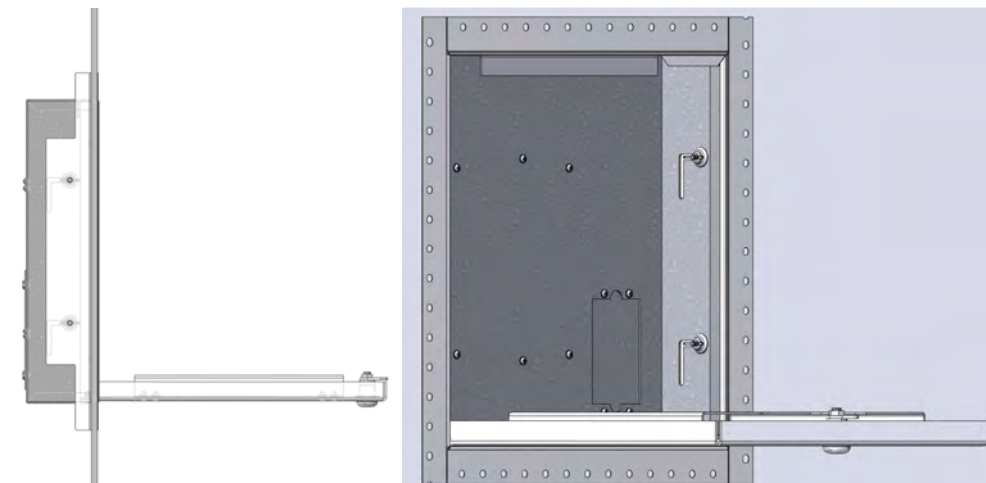

Figure 4 - Locked Position
Step 4 – Once the enclosure is flush with the wall or ceiling, slide the wall bridges in the L-slot, and draw the bridges against the wall. Tighten the wing nuts one side at a time (Figure 4). At this point, the enclosure is ready to be "mudded" into the wall. Additional material may be needed.